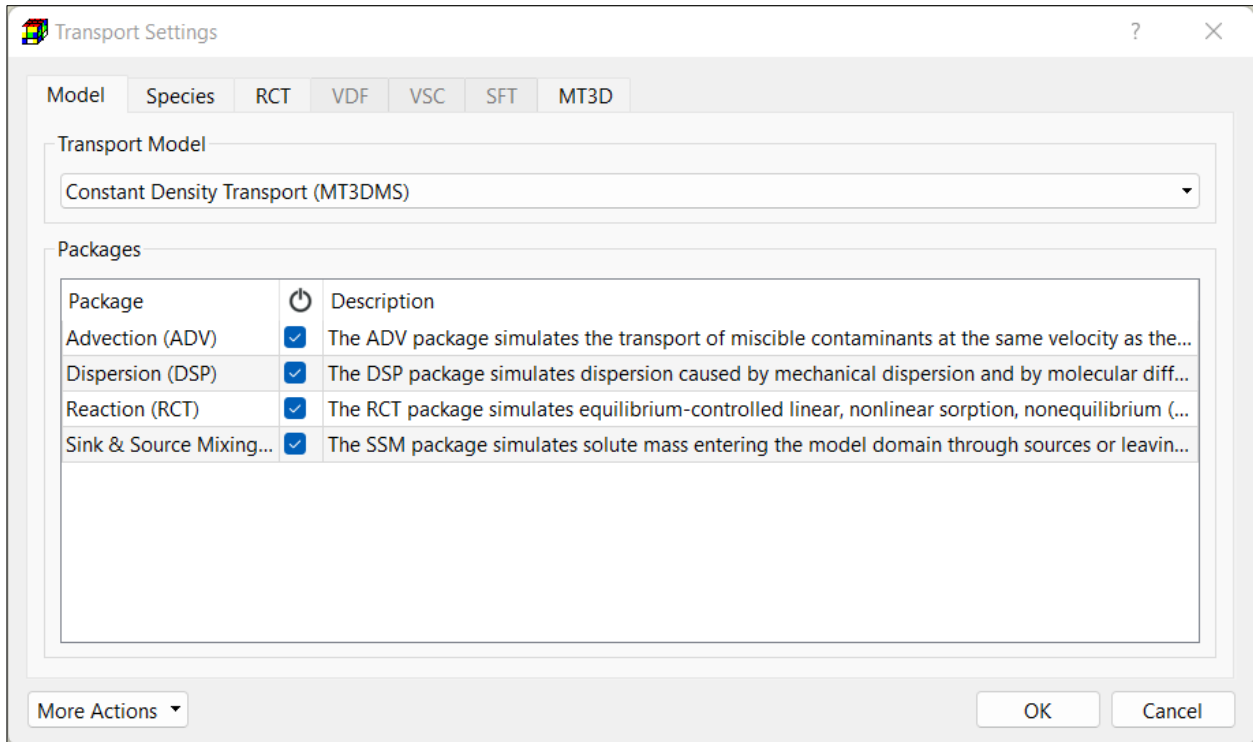

Figure 26. The Transport Settings dialog box
1. Select Models > MT3D/SEAWAT > Settings to open the Transport Settings dialog box (Figure 26). We will use the transport model MT3DMS⁶ and its packages as shown in the figure.